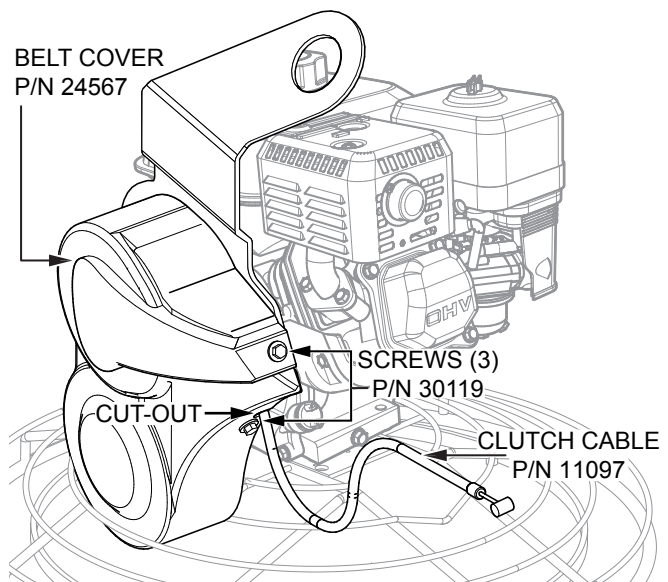

Figure 41. Belt Cover Installation
1. Place the belt cover (P/N 24567) over the V-belt (P/N 0152 3) and pulleys. Make sure the clutch cable (P/N 11097) extends through the cut-out in the belt cover. See Figure 41.
2. Secure the belt cover (P/N 24567) to the trowel assembly with three screws (P/N 30119), and tighten securely. See Figure 41.